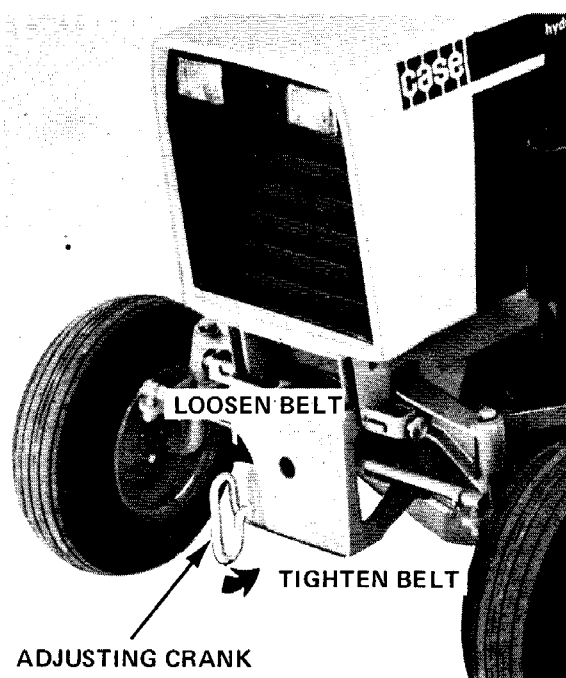

FIGURE 14 BELT ADJUSTMENT
2. Before attaching the mounting bracket, turn the adjusting crank counterclockwise as far as possible to provide mounting clearance at the front axle. Refer to Figure 14.